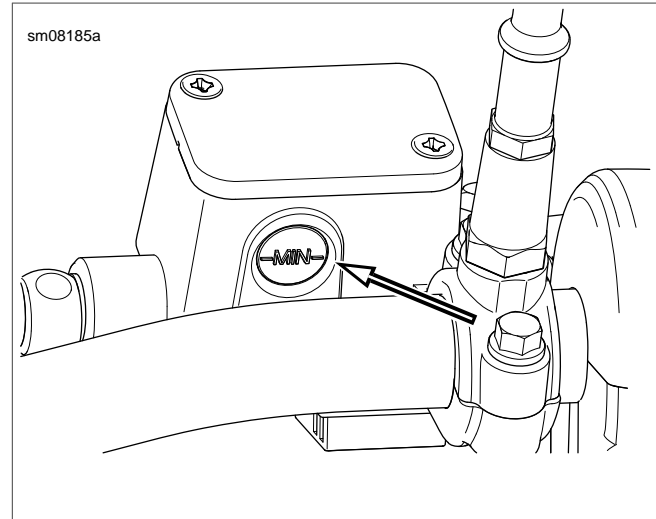

Figure 29. Front Master Cylinder Reservoir Sight Glass
2. **Front:** See Figure 29. Check level in front reservoir sight glass. Level must be above MIN.